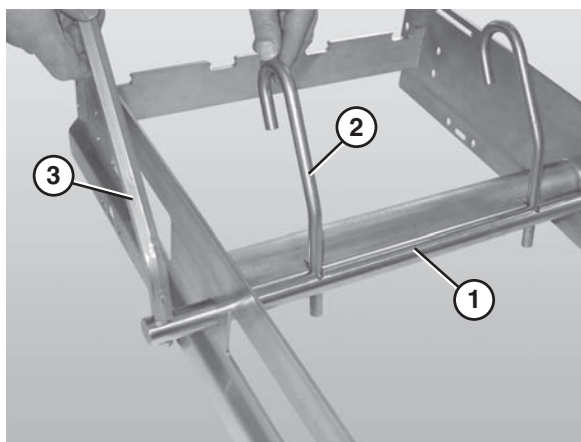

Figure 21
1. Slide the belt lift pivot bar (**Figure 21, item 1**) through the designated holes in the frame.
2. Attach the lifter bars (**Figure 21, item 2**) to the belt lift pivot bar (**Figure 21, item 1**). Make sure the hooked ends of the lifter bars are facing down when resting against the frame.
3. Attach the lifter handle (**Figure 21, item 3**) to the belt lift pivot rod.